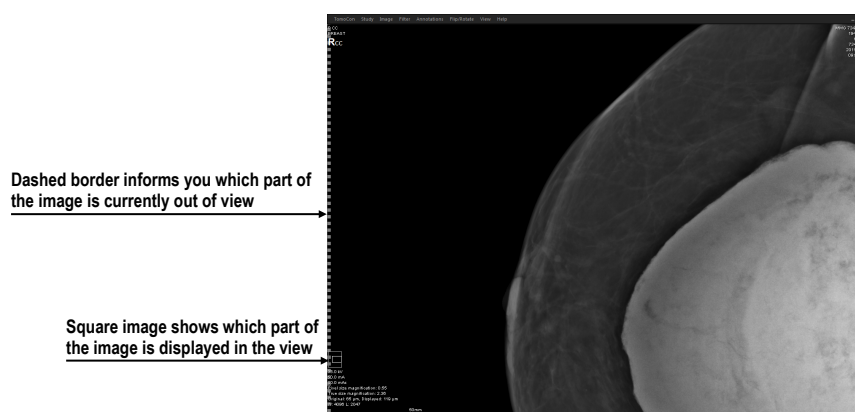

Figure 72 – Active checkered border
- The **Show checkered border when the entire image is not displayed** check box – if checked and the image in the mammography view is zoomed out of the view's size, the image is partially bordered with a dashed line to indicate which part of the image is displayed outside of the view (see Figure 72).